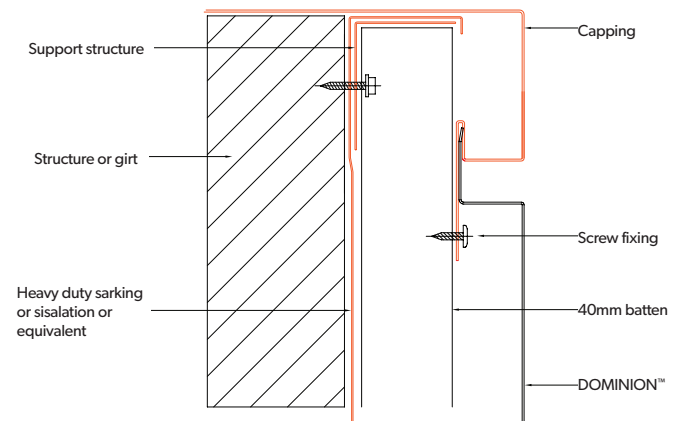

Figure 13.2.4:
7. At the bottom of the façade a flashing is required to direct any water from the membrane external of the façade. This will be done in a way as to allow any water to pass between the flashing and the foot mould. Figure 13.2.4.